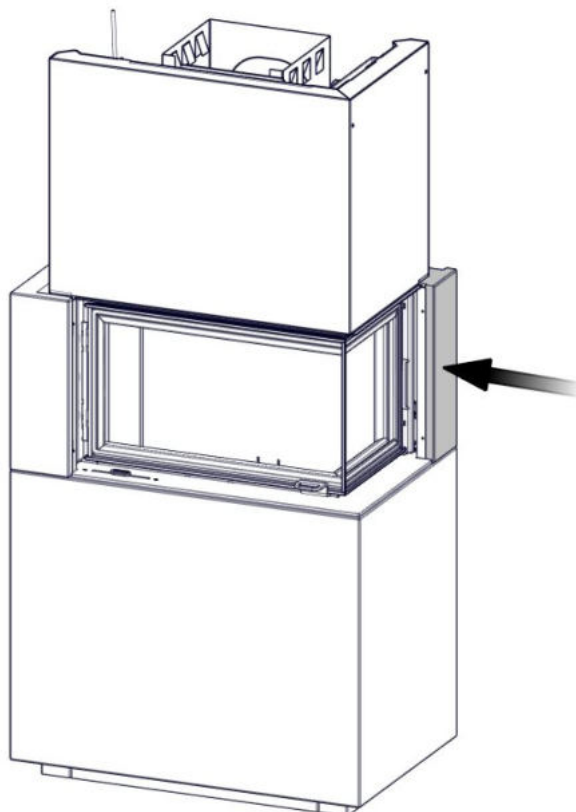

FIG 15**Monaco A High Base_Q-34 AR**
**FIG 15 a****Monaco A High Base_Q-34 AR**